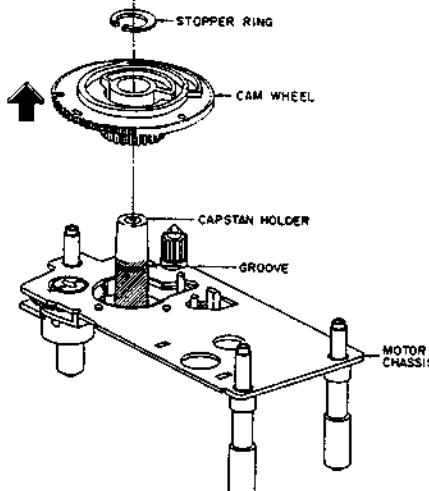

Fig. 3-12
- 2) Remove the stopper ring from the capstan holder. Pull off the cam wheel. (Refer to Fig. 3-12)